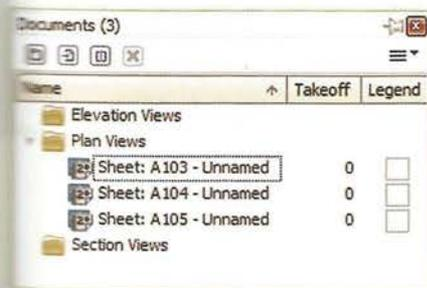

Fig 24: New Folders
- Right Click on the Document palette and create two more new folders with the name of 'Elevation Views' and 'Section Views' (Figure 24).